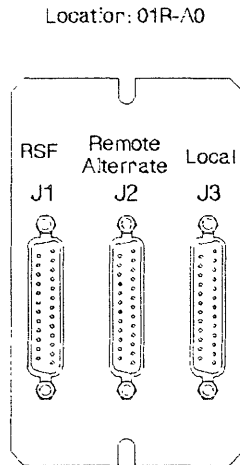

Figure 3-2 Console Tailgate
- a. **Plug the console wrap tool** (P/N 6398697) at the rear of the 3745 in the **local** console tailgate connector at 01R-A0J3. For locations, refer to Figure 1-3 on page 1-6, and see the following drawing (Figure 3-2):